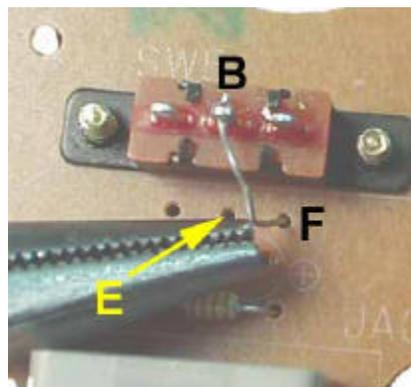

Figure 7
- 7. Remove the wire from point E as shown in Fig. 7. DO NOT cut this wire. Move the free end of this wire into hole F and solder it into place (you will need to turn the PCB over to accomplish this connection).